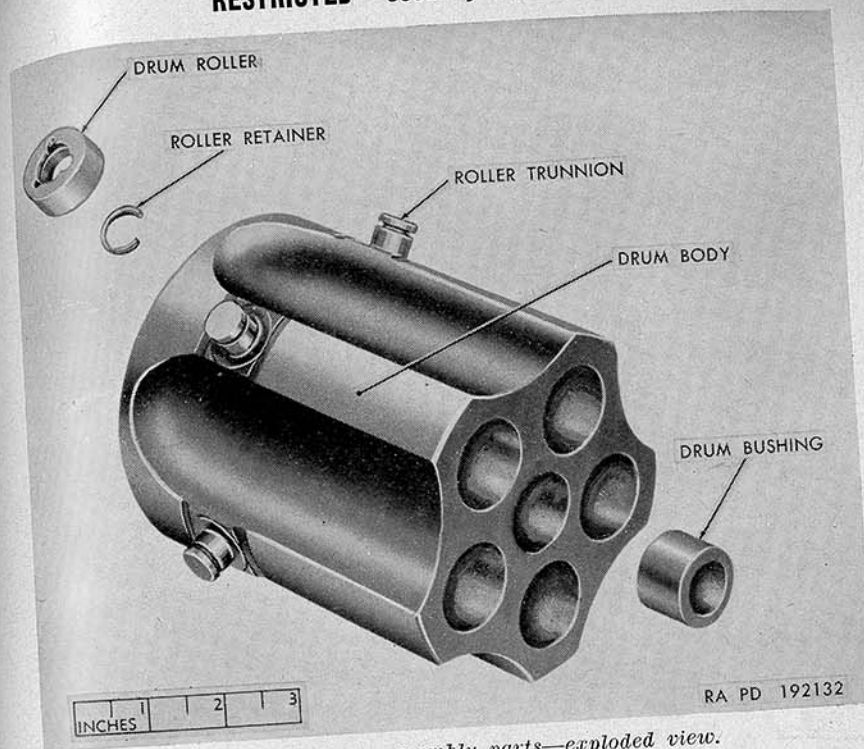

Figure 92. Drum assembly parts—exploded view.
- (4) Remove the roller retainers (fig. 92) with a drum roller retainer disassembling compressor 7188577 (table IV, par. 98).
d. Using an arbor press, force the drum bushing (fig. 92) out from the drum body.
- a. Position one roller retainer in each groove of the roller trunnions (fig. 92) with a drum roller retainer assembling compressor (fig. 86).